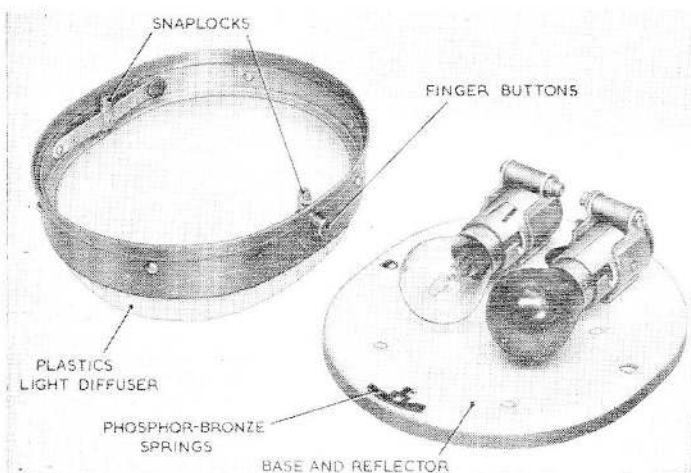

Fig. 2. Type 80/10/1032 lamp with cover removed
2. The lamp consists of two parts: the base and the cover. The base, shown in Fig. 2, is a